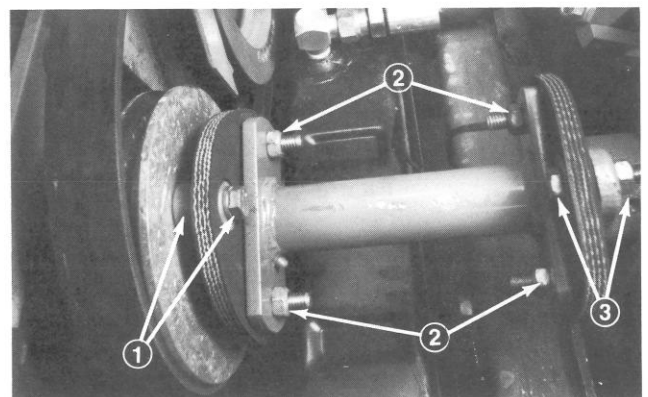

Figure 47
2. Remove two capscrews, lockwashers, flatwashers and spacers securing drive coupling assembly to engine pulley and two capscrews, flatwashers, small spacers and locknuts securing coupler to transmission hub (Fig. 47). Slide assembly out after capscrews are removed.
3. If drive coupling assembly must be disassembled, separate rubber couplings from power shaft by removing four nuts, flatwashers, capscrews and spacers (Fig. 47).
1. Assemble rubber couplings and power shaft with capscrews, spacers, flatwashers and nuts (Fig. 47).
2. Position drive coupling assembly between engine pulley and transmission hub, and align the holes. Secure drive coupling between pulley and hub with capscrews, lockwashers and flatwashers (Fig. 47). Tighten the capscrews alternately and evenly to prevent distortion of the rubber coupling.